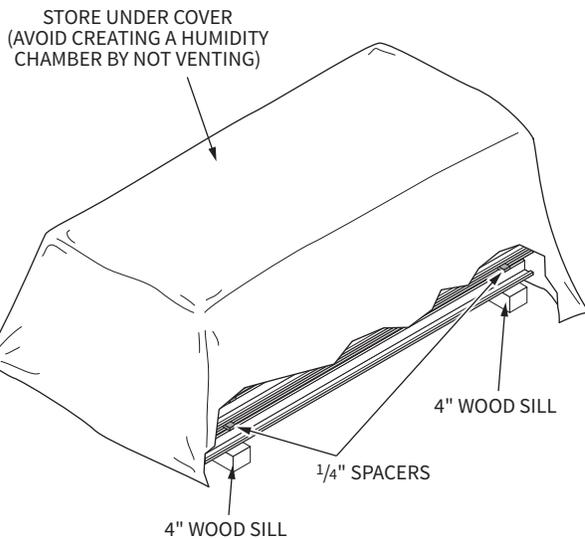

Figure 2: Storage of Knocked Down Frames
1. Frames shall be stored under cover on the Building site on 4" wood sills or on floors in a manner that will prevent rust and damage. Avoid the use of non-vented plastic or canvas shelters which create a humidity chamber (Figure 2).